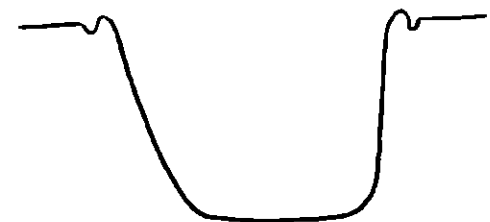

Fig. 47 R. F. Response Curve.
3. Connect the scope input from tip jack "S" to chassis and adjust the Mega-Sweep coarse frequency and sweep amplitude controls to obtain a pattern similar to fig.47. Always keep the